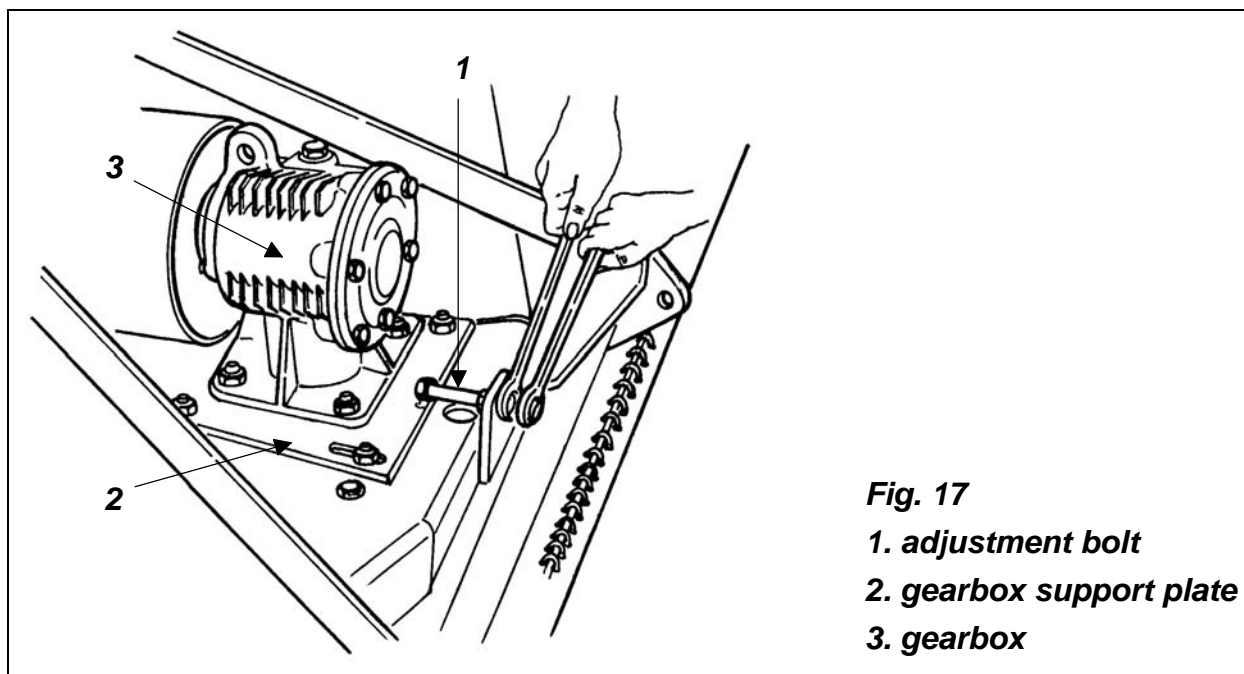

Fig. 17
To adjust the tension do the following (see fig. 17):
4. Turn the adjustment bolt counter clockwise, pushing the gearbox support plate forward until all tension is released (**see fig. 17**).
2. Loosen the nuts holding the gearbox support plate (**see fig. 17**).
3. Loosen the nut and turn the bolt in order to push the gearbox forward and release tension on the belts (**see fig. 17**).
7. Unbolt the nuts holding the gearbox support plate to the central plate (**see fig. 17**). Remove gearbox and gearbox support plate.